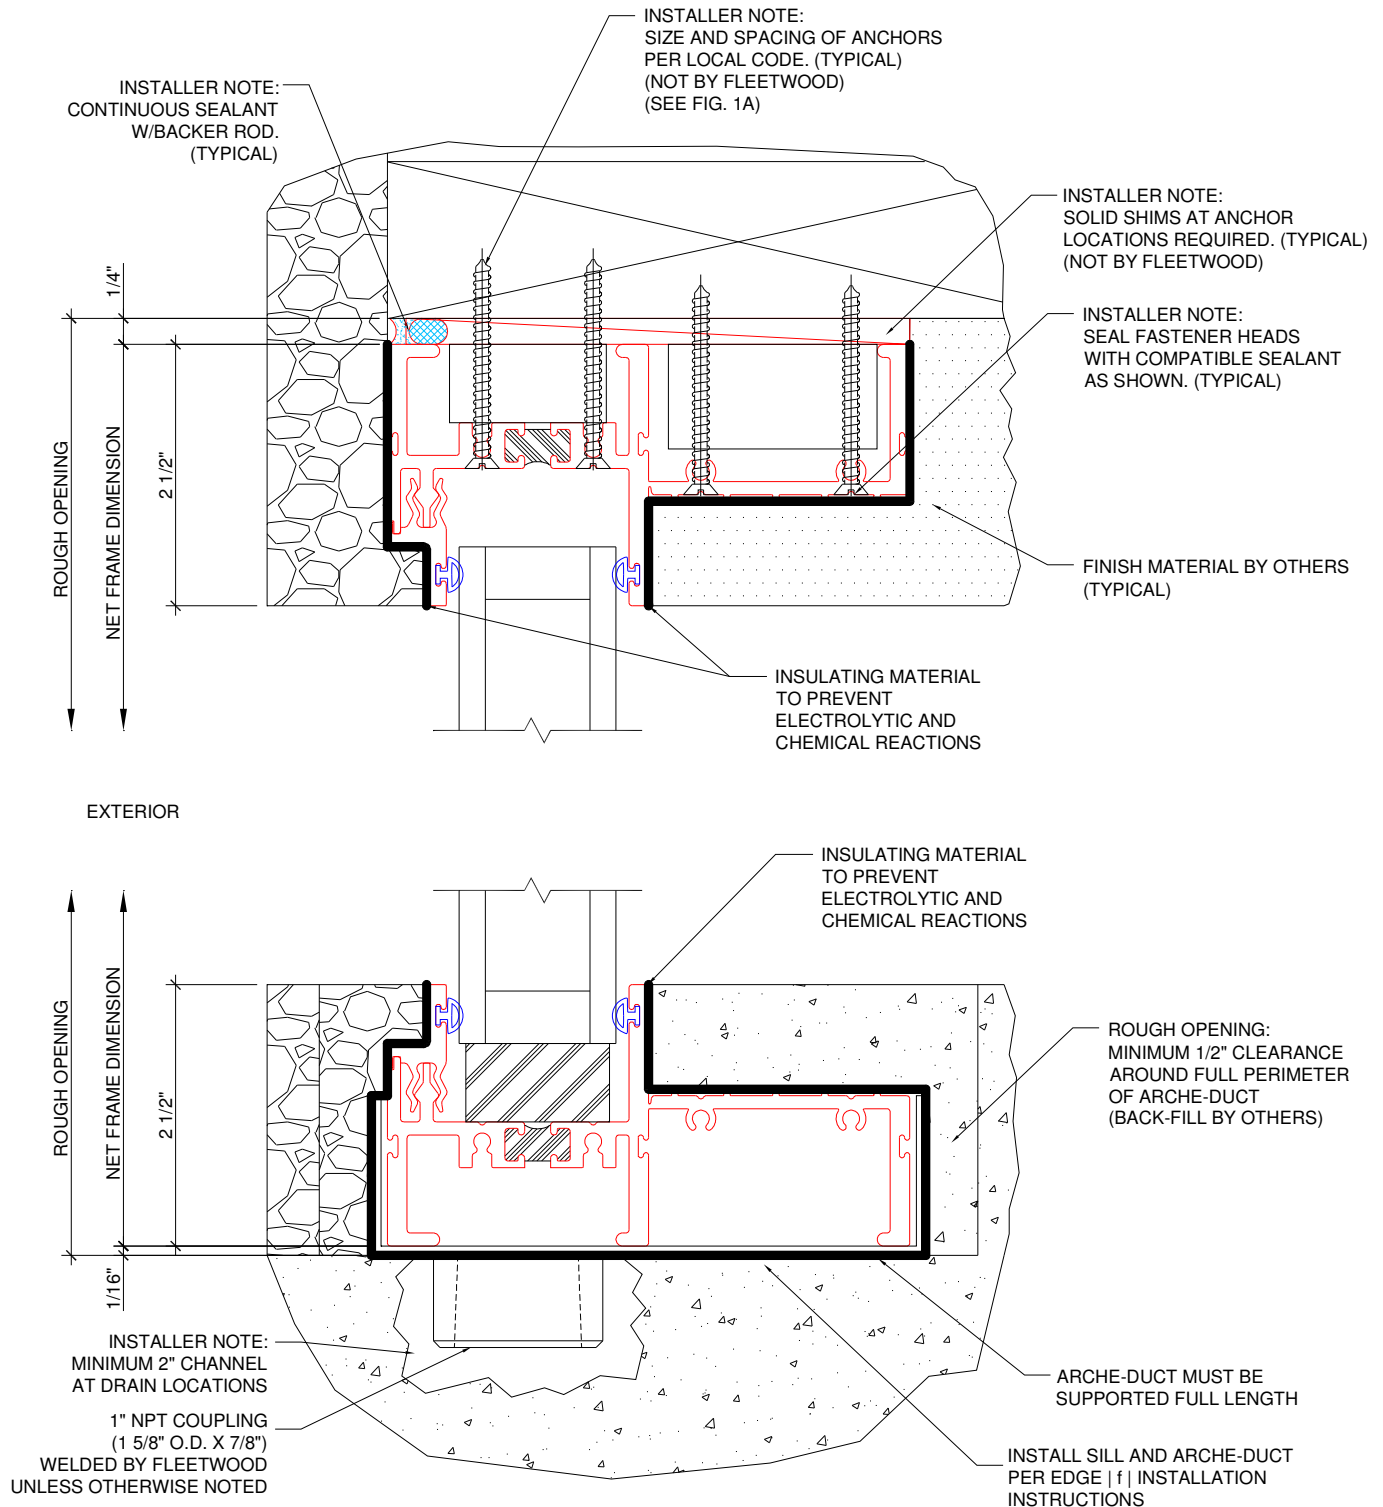

Figure 7:
3. Anchor Location and Sealant (Figure 7)
5. To complete the installation, apply backer rod and bead of sealant between the frame and the building structure, exterior and interior. Tool the sealant to eliminate bubbles, voids and / or breaks and ensure a completely watertight seal. See Anchor Location Drawing, Figure 7.